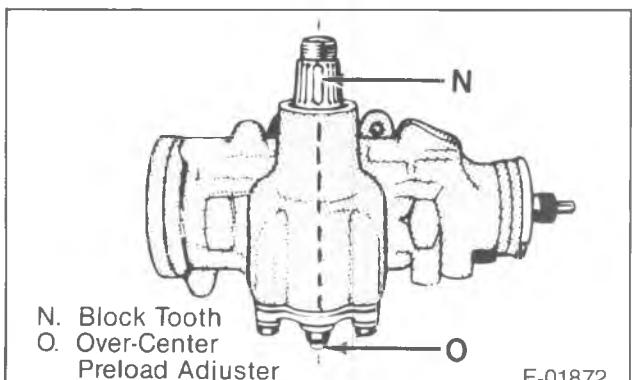

Figure 20—Pitman Shaft ‘Over-Center’ Sector Adjustment
- Install the adjuster nut (245) and torque the nut to 108 N·m (80 ft. lbs.). Hold the adjuster plug to maintain alignment of the hole with the mark.
- Check the turning torque of the stub shaft, using J 7754-01 and a 12-point socket. The reading should be taken with the beam of the wrench near vertical while turning the wrench to the left at an even rate (figure 20). If the reading is less than 0.45 N·m (4 in. lbs.) or more than 1.15 N·m (10 in. lbs.), repeat the adjustment procedure.
- Lubricate the stub shaft (251) area outside the dust seal (206) with chassis lubricant or an all purpose grease.